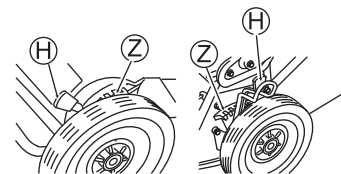

Fig. 22
2. Lean the cutting height adjustment lever (H) toward the wheel side, separating from the notches (dents) (Z). (See Figs. 22 and 23)